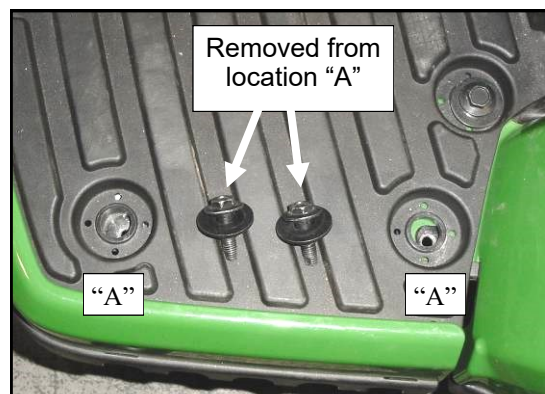

Fig. 1.1c (view from left side of tractor)
- (2) Outboard floorboard bolts and washers shown. Discard the bolts and washers. See Fig. 1.1c. Repeat for right side of vehicle.